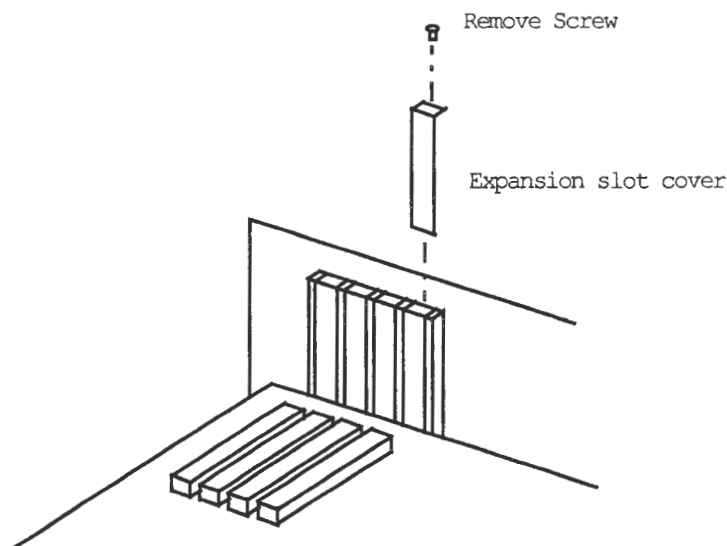

Figure 4: Removing the Expansion Slot Cove (ISA Bus)
2. Turn off the power to the computer and remove the chassis cover (refer to the manual for the PC for a description of how to remove the chassis cover). Then remove the expansion slot cover as shown in Figure 4.